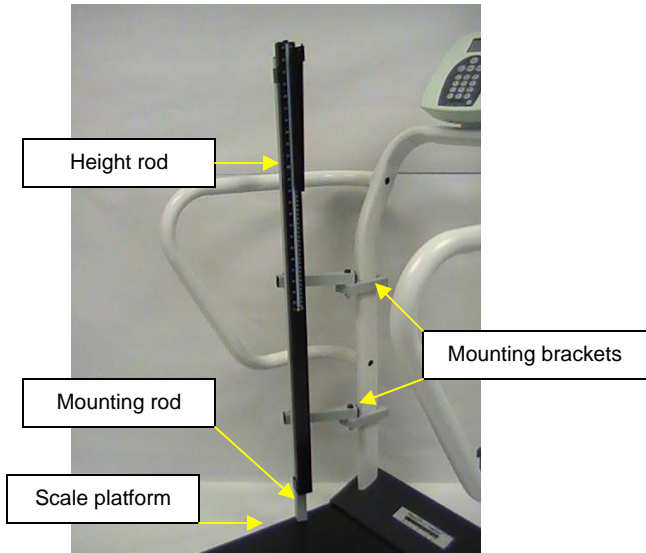

Figure 1
Mounting Instructions (see Figures 1 - 4)
4. Detach the mounting brackets from the assembly (see Figure 1).
6. Standing in front of the platform, position and assemble the mounting brackets on the left side of the handrail (see Figure 1).